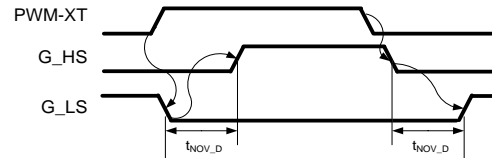

Figure 21: Local Mode operation
- Local Mode: PWM-XB and PWM-XT are generated from one input signal (PWM-XT) and proper non overlapping timing is managed locally on each phase of CMT-PLA3SB12340A gate driver board (cfr Figure 21)